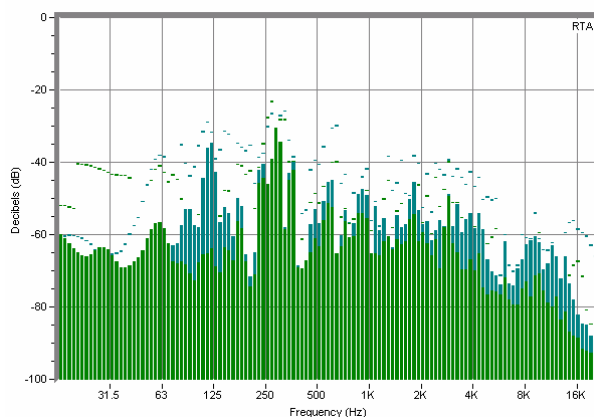

Figure 3: Default live RTA spectrum display ($1/12^{\text{th}}$ -octave).
If we launch SmaartLive with its default parameters and start the *Spectrum* mode, we will see a graph representing the signal *power-versus-frequency* in $1/12^{\text{th}}$ -octave frequency *bands* for both input channels (see Figure 3). You will note that the *time response* of the RTA display is quite fast; this is due to the short time constant (186 ms) and the fact that there is no *frame averaging* applied to the display (averages = 1). A fast time response is useful only for very specific applications, primarily when a joint time-frequency analysis of a signal is desired, such as with a spectrograph (as we will see later). This short time constant also provides minimal *low-frequency resolution*, where the frequency resolution in this case is
5.4 Hz. As you can see in Figure 3, the low-frequency bands seem to have a smooth appearance, due to the low density of FFT data bins at these low frequencies.